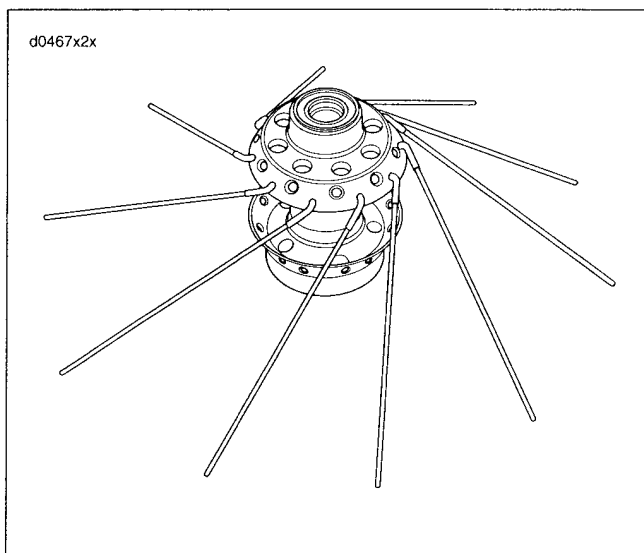

Figure 2-42.
1. See Figure 2-42. Place the hub on table with brake disc side (wide flange) down. Insert a spoke in each hole of the **lower** row as shown below. Angle spokes clockwise.